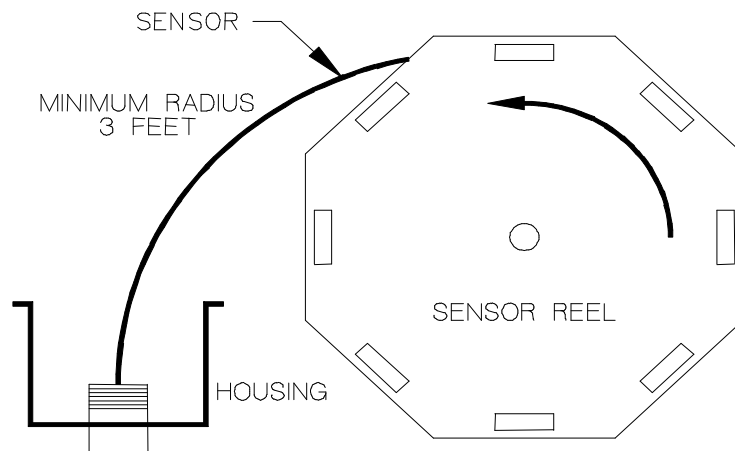

Figure 5 Sensor Installation
- * Have two (2) people available for sensor installation.
- * Remove packing as you dispense sensor directly from reel into still pipe, as in Figure 5, without bending, twisting or scraping sensor against sharp edges or surfaces.